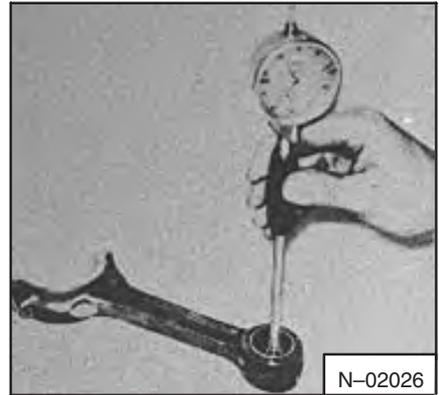

**Fig. 7A-74** Marking Bearings
3. Lift out the cylinder, piston and rod together (Fig. 7A-75). Note the number of shims under the cylinder.